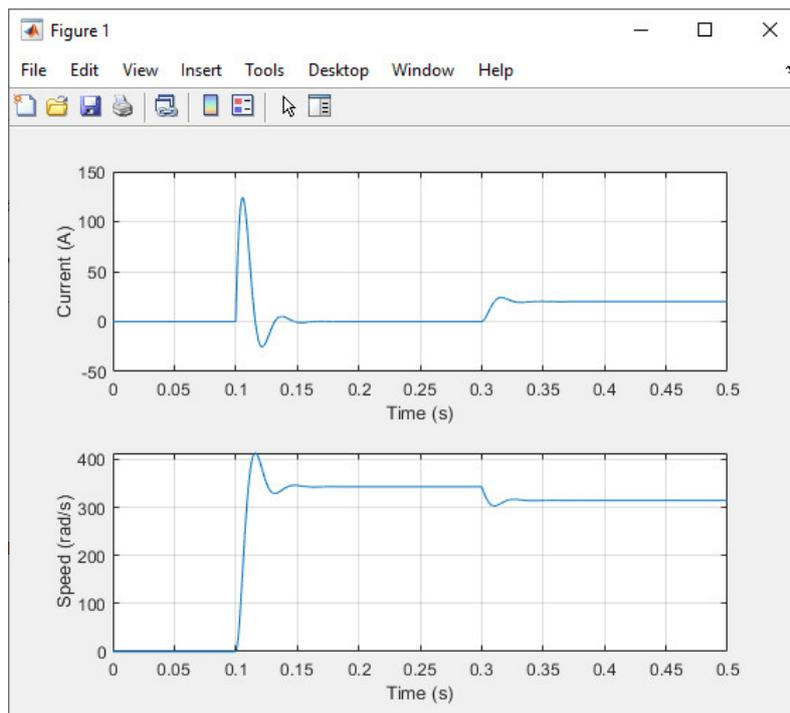

Figure 7: Rated voltage step at $t = 0.1$ s and rated load torque step $t = 0.3$ s.
It is practical to write and save these commands as a script (e.g., using the name **fig.m**) and then run the script by typing its name (**fig**) in the workspace. This way you can easily edit and reuse your scripts. The simulation results should look similar to those shown in Fig. 7. If they look different, you should debug your model.
1. Simulate the sequence corresponding to Fig. 7. Modify the plotting script so that the per-unit current and the per-unit speed are plotted (use their rated values as base values and do not normalize time). Show this result in your report. Remember to change the axis labels. Explain why there is a very large peak in the current after the voltage step is applied.